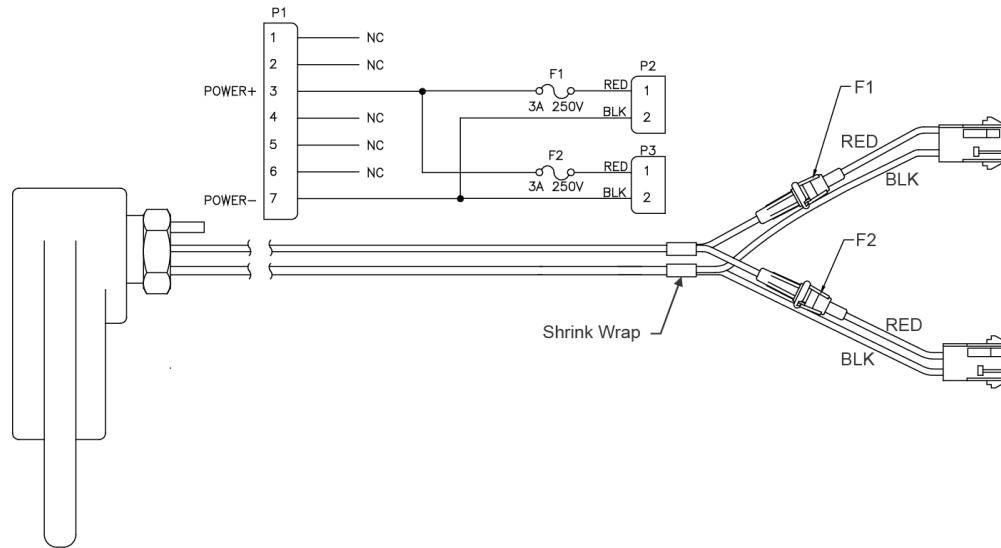

Figure 70. WorkHorse External Battery Case Wiring
17. For the WorkHorse External Battery Case, cut the wires on pins 1, 2, 4, 5, and 6 to 6mm long. Shrink wrap the bare ends of the wires. Place shrink wrap around the splices on pins 3 and 7 (see Figure 70. WorkHorse External Battery Case Wiring).